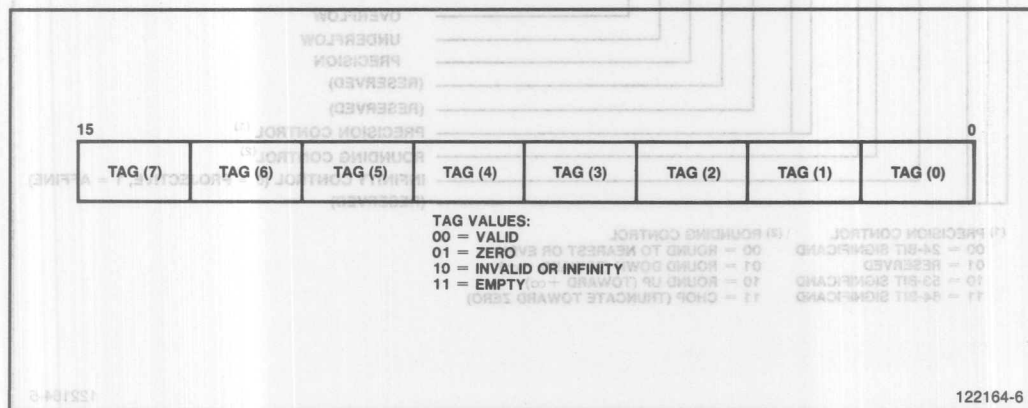

Figure 1-6. 80287 Tag Word Format
The tag word indicates the contents of each register in the register stack, as shown in figure 1-6. The tag word is used by the NPX itself in order to track its numeric registers and optimize performance. Programmers may use this tag information to interpret the contents of the numeric registers. The tag values are stored in the tag word corresponding to the physical registers 0-7. Programmers must use the current Stack Top (ST) pointer stored in the NPX status word to associate these tag values with the relative stack registers ST(0) through ST(7).